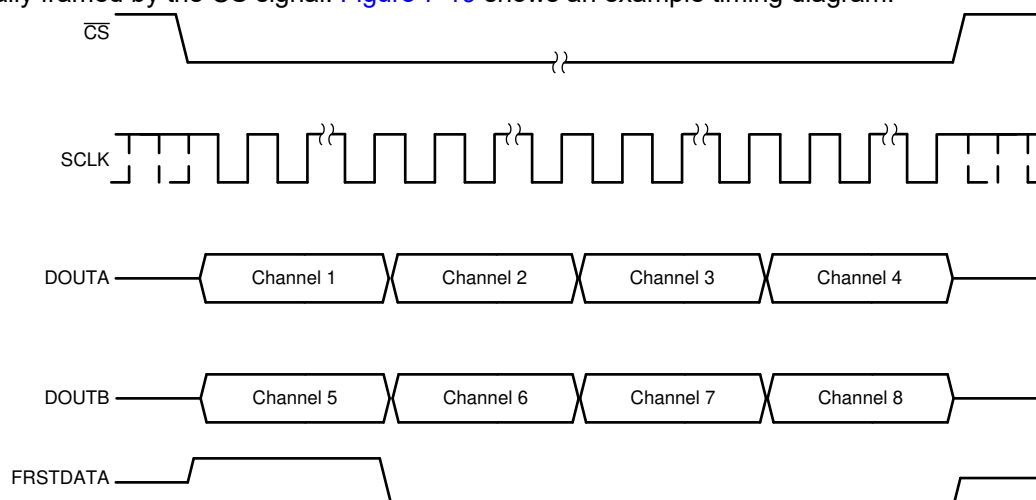

Figure 7-19. Data Read Back in the Serial Interface Using Both DOUTA and DOUTB Timing Diagram
- In order to minimize the time for the data read operation in serial mode, both DOUTA and DOUTB can be used to read data out of the device. In this case, the conversion results from the first set of channels (channels 1-4) appear on DOUTA and the conversion results from the second set of channels (channels 5-8) appear first on DOUTB. To read the data for all channels, provide a total of $16 \times 4 = 64$ SCLK cycles. This entire data frame can be created within a single $\overline{CS}$ pulse or each group of 16 SCLK cycles can be individually framed by the $\overline{CS}$ signal. Figure 7-19 shows an example timing diagram.